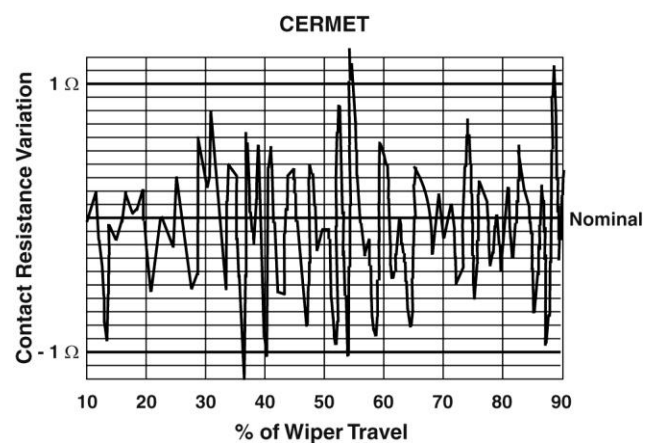

Fig. 1
glaze that adds high resistance into the wiper's contact resistance (CR). As the wiper traverses the element the wiper current shifts back and forth through the matrix, an effect that yields high CRV. (Fig. 1)